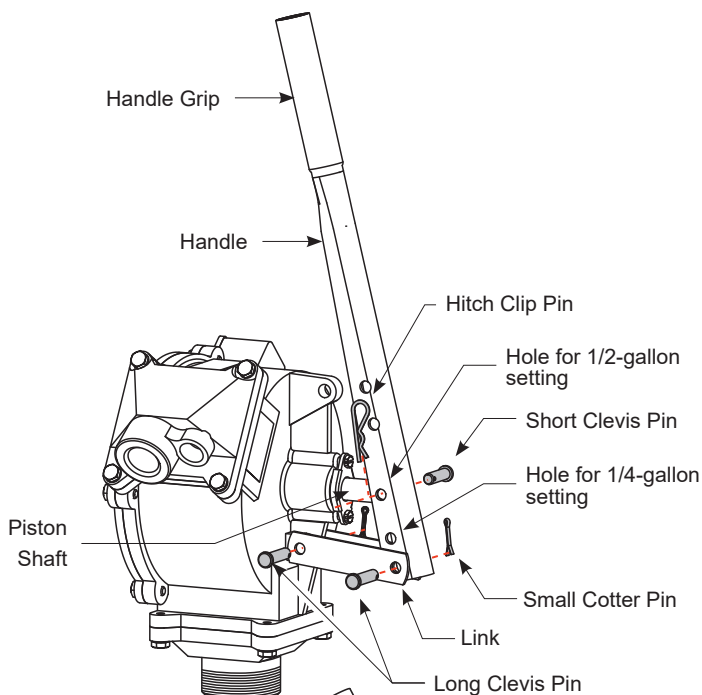

Figure 3
2. Insert the inlet screen (see Figure 3) into the inlet cover.
3. Place the spacer (see Figure 3) in the inlet cover to secure the inlet screen.
Refer to illustrations Figure 3 and Figure 4 on page 8.
2. To install the links on the pump, insert a long clevis pin through the link ends and the pump's link holes. Secure with a small cotter pin (see Figure 3).
3. Attach the free ends of the links to the bottom, outer surfaces of the handle. Insert a long clevis pin through the holes on both links and the lowest hole on the handle. Secure with a small cotter pin (see Figure 3).
5. Select the upper piston hole on the handle for the 1/2-gallon setting (see Figure 3) or the lower piston hole for the 1/4-gallon setting. Flow settings can be changed at any time by repositioning the piston shaft on the handle.